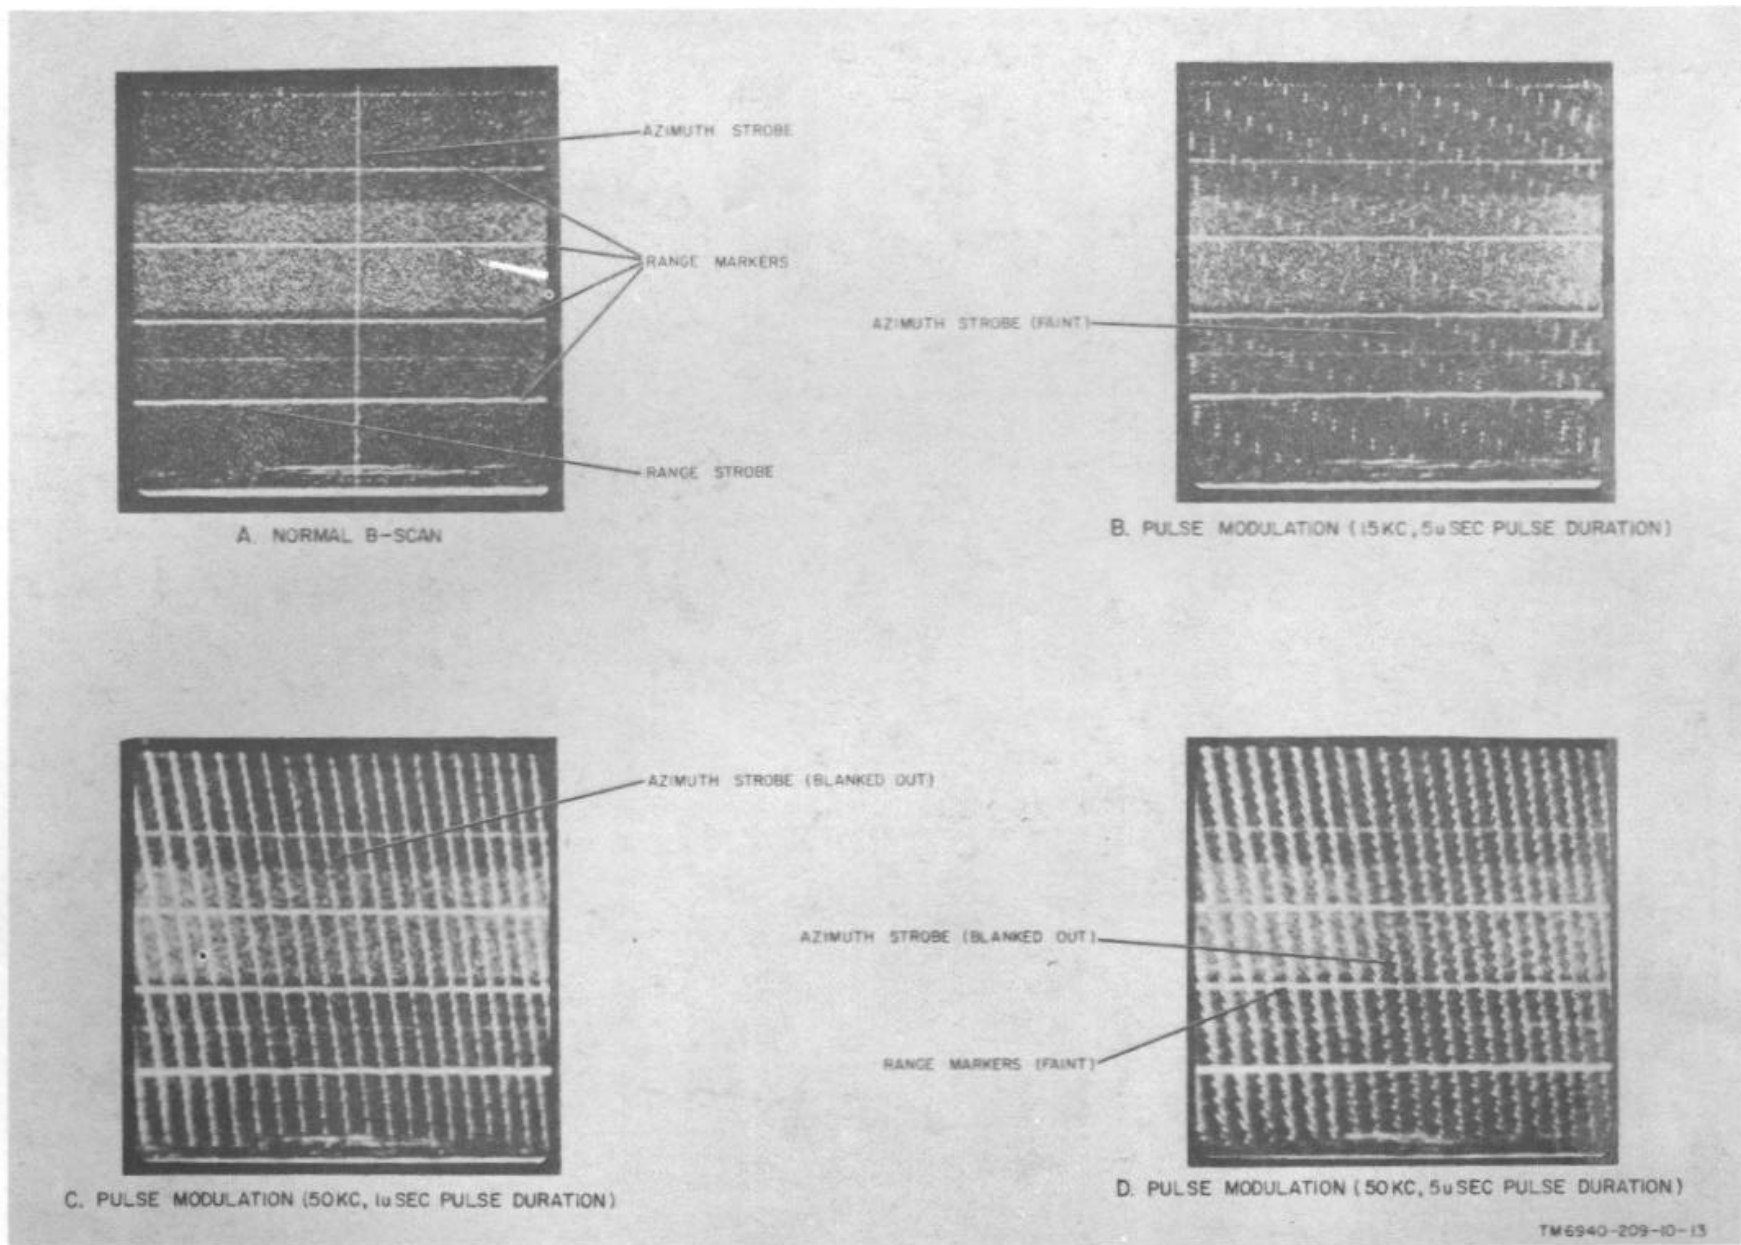

Figure 5. Normal B-scan and jamming by pulse modulation.
c. *Pulse-Modulation Jamming* (fig. 5). Pulse-modulation jamming is very similar to square-wave modulation, but it is much more effective and efficient than sine-wave or square-wave modulation. In pulse modulation, a high power pulse is transmitted, and there is a relatively long waiting period before the next pulse is transmitted. In this way, high peak powers may be transmitted with the expenditure of relatively low levels of average power. A pulse-modulated jamming signal will cover a wider portion of the frequency spectrum than sine-wave or square-wave modulated signals. Pulse modulation has one serious shortcoming in common with the other types of modulation discussed above. The periodic nature of the modulating signal permits effective antijamming measures to be taken. Pulse-modulation jamming from the radar trainer is continuously variable from 15 pulses per second (pps) through 15,000 pps. Fixed pulse rate settings are available at 50,000 pps and 100,000 pps. Pulse width is continuously variable from 1 through 5 microseconds. At 15,000 pps (B, fig. 5), the radar set is filled with widely spaced carat-like figures. If the pulse rate increases, the carat-like figures will be closer together and a clearly defined diagonal line will be formed. Between 50,000 pps and 100,000 pps, the entire radar scope will be filled with small carat-like figures and the range and strobe will be blanked out.